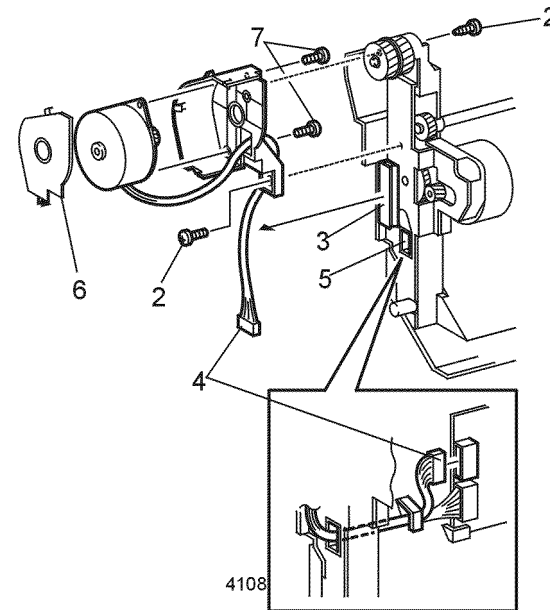

Figure 1 Exit Motor Assembly
5. Rotate the connector sideways and push the connector through the hole in the Duplex frame (Figure 1).
6. Remove the motor cover (Figure 1).
7. Remove the two screws that secure the Exit Motor to the holder assembly (Figure 1).